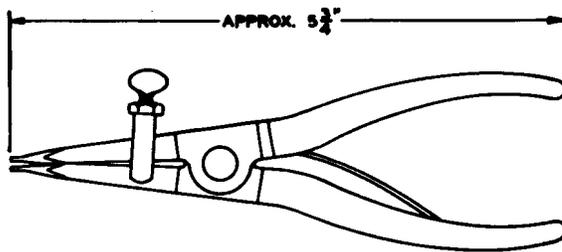

Fig. 1—R-2975 Adjustable Snap-Ring Pliers
2.01 **R-2975:** The R-2975 tools are adjustable snap-ring pliers (Fig. 1) used in installing external snap rings on motor mounting shafts on the KS-13834 perforator.